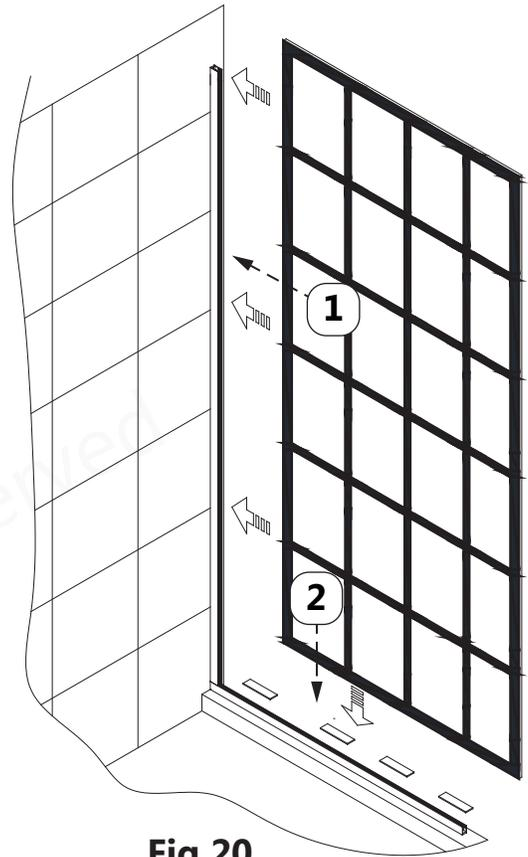

Fig 20
20. Install the **Stationary Panel Glass (#11)** into the **Vertical U-Channel (#09)** first and then slide it down into the **Bottom U-Channel (#29)** onto the **0.5mm PVC Glass Spacers (#34)**. Push the **Stationary Panel Glass (#11)** tight into the vertical **U-Channel 1 (#09)** so that the edge of the **Stationary Panel Glass (#11)** is flush with the open end of the bottom **U-Channel 2 (#29)**. (**Fig 20**)